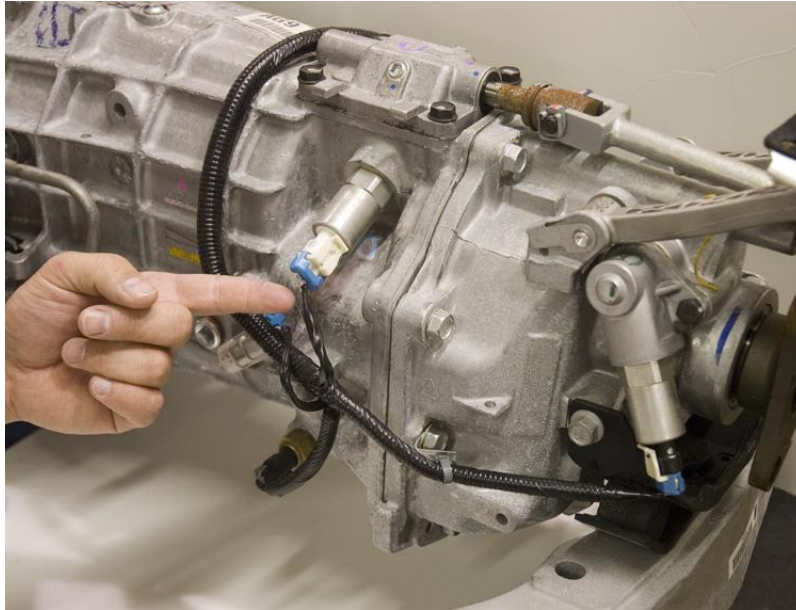

Figure 1: Skip Shift Solenoid Location
2. Carefully remove the connector from the skip shift solenoid. Skip shift solenoid is located about halfway down the transmission case toward the top, on the drivers' side (See Figure 1).